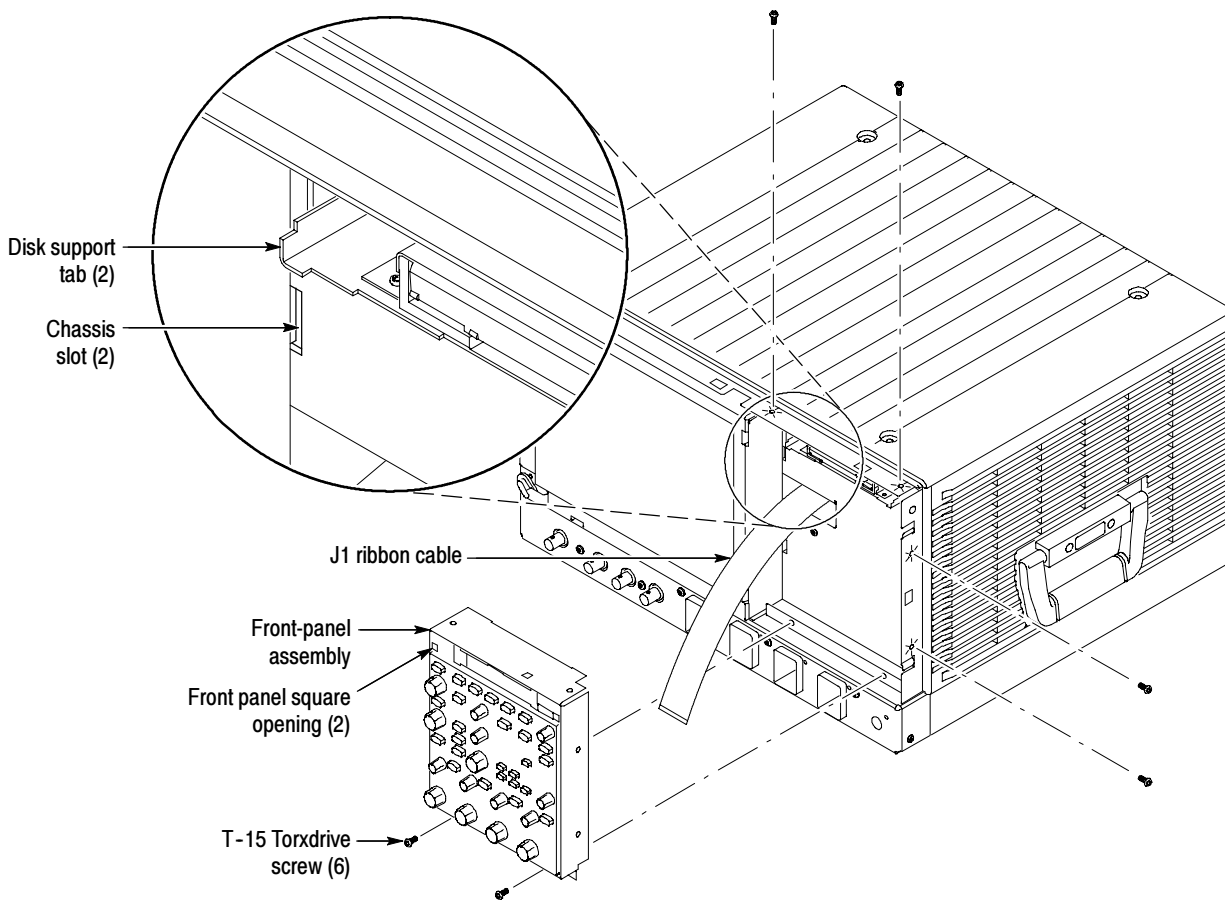

Figure 3: Front-panel assembly removal
1. *Locate module to be removed:* Locate the Front-panel assembly in Figure 3, on page 8.
2. *Remove the Front-panel assembly:* See Figure 3, page 8.
1. *Locate module to be removed:* Locate the Front-panel assembly in Figure 3, page 8.
Insert the two disk support tabs into the front panel square openings. Both left front-panel tabs must go into the chassis slots. See Figure 3, page 8.